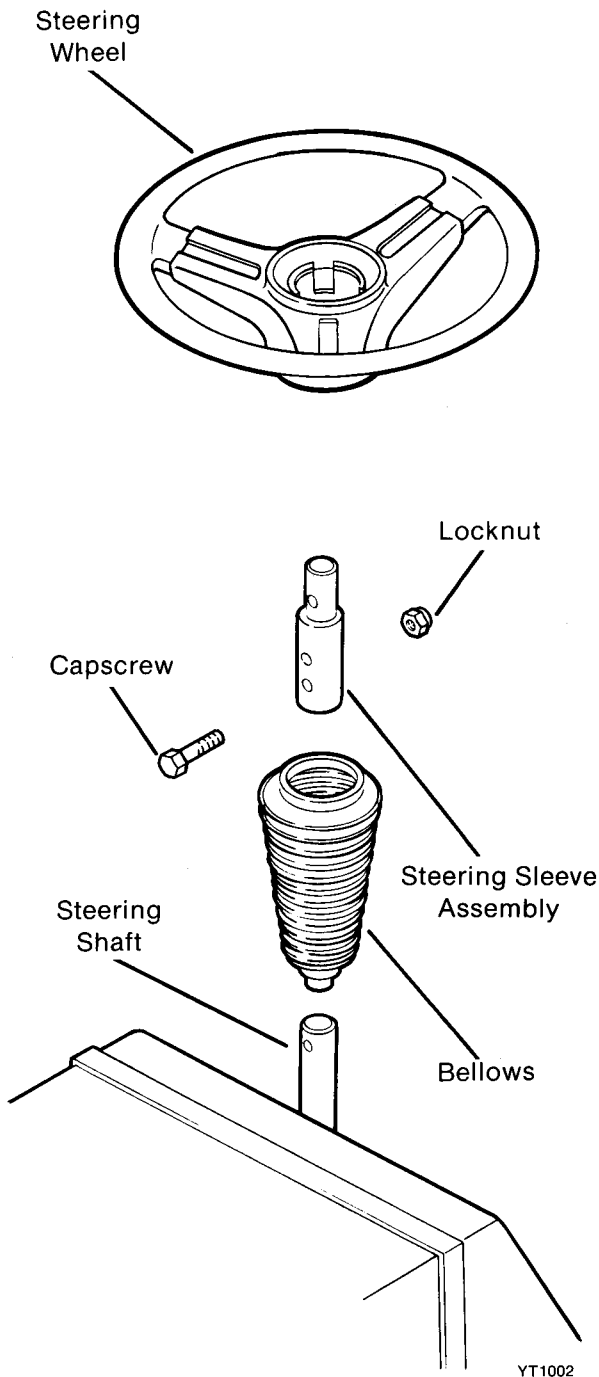

FIG. 15
- K. **17 H.P. Engines Only** - follow next five (5) steps, "a" through "e".
- Compress steering shaft bellows to expose capscrew through steering sleeve assembly. (Fig. 15) Remove capscrew and locknut. Lift steering wheel assembly and bellows off steering shaft.